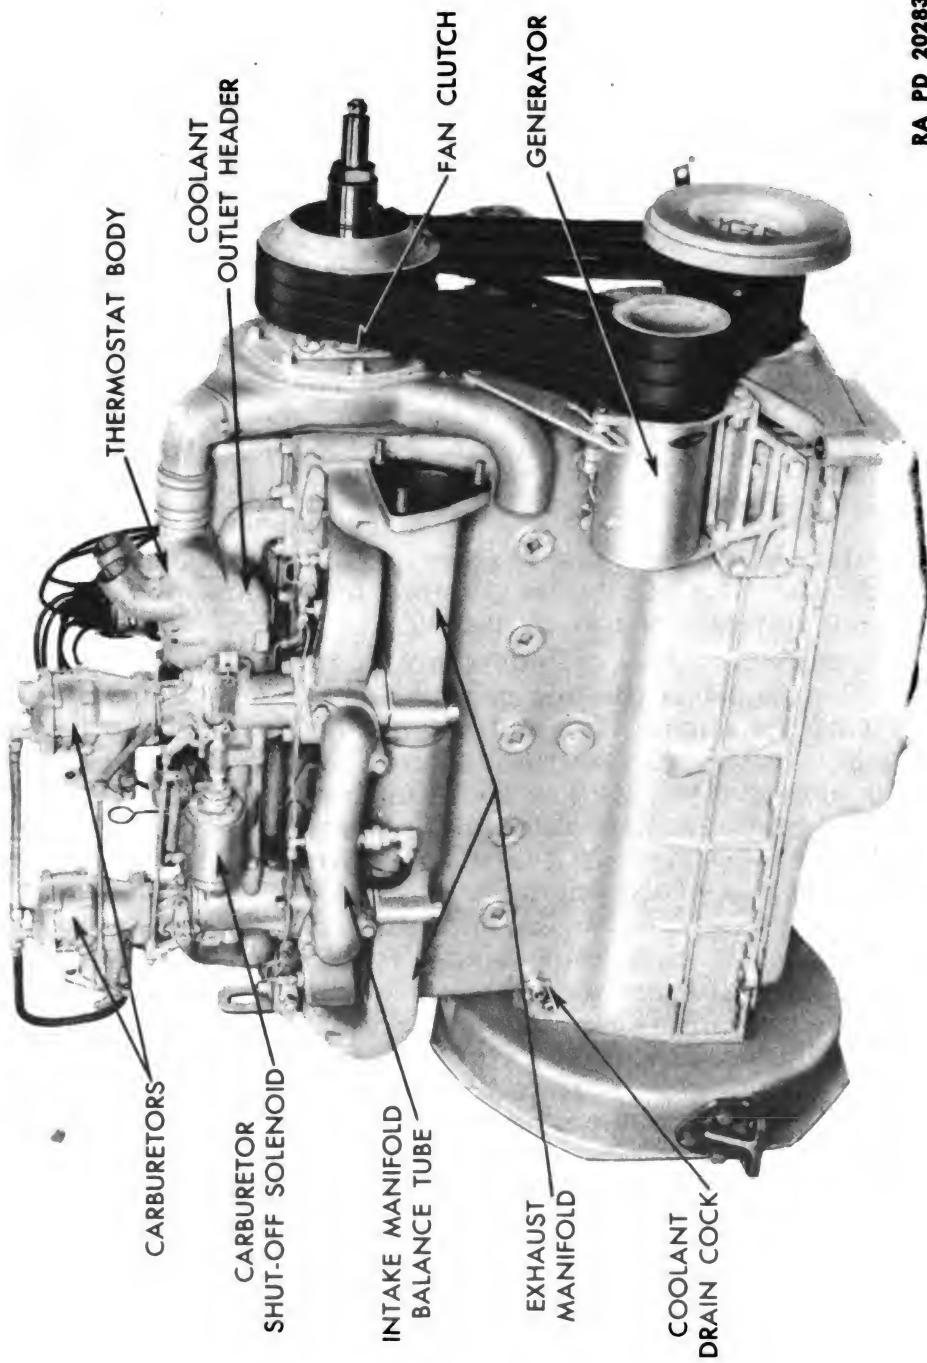
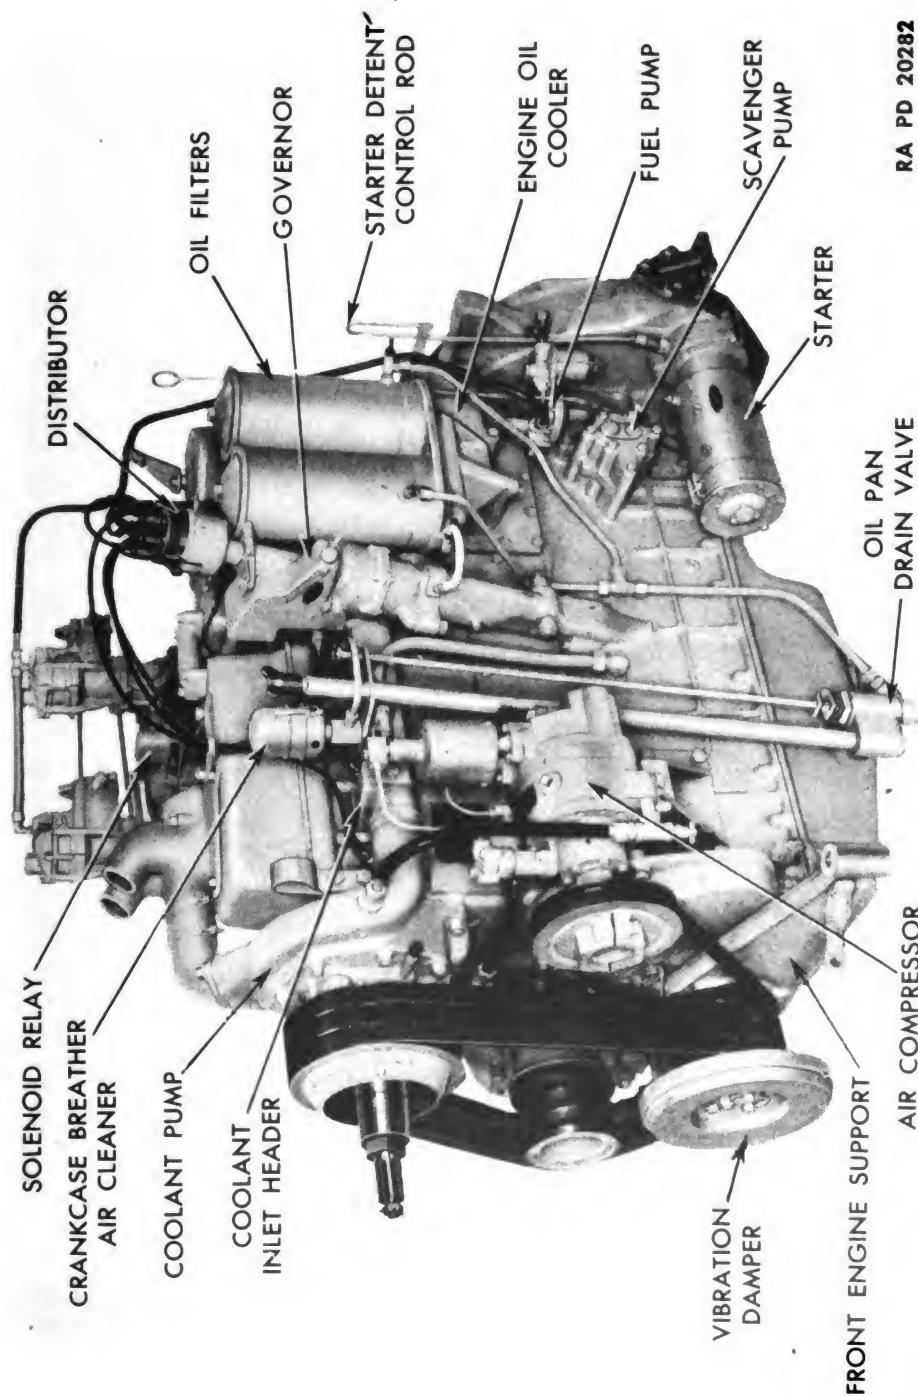

Figure 2 — Right Side of Engine
Figure 3 — Left Side of Engine
c. **Accessories.** The two downdraft carburetors, intake and exhaust manifolds, carburetor shut-off solenoid, coolant outlet header, and generator are mounted on the right side of the engine (fig. 2). The fuel pump, air compressor, ignition coil, spark plugs, starter, distributor, governor, two oil filters, oil scavenger pump, oil cooler, oil level gage rod, crankcase breather air cleaner, and coolant inlet header are mounted on the left side of engine (fig. 3). Removal of all accessories, except the governor, is covered in TM 9-786. Maintenance and repair of accessories is covered in other chapters of this manual and in other TM's. Refer to chapter 1, paragraph 1, e, f, g, and h for the number of manuals and the accessories they cover.